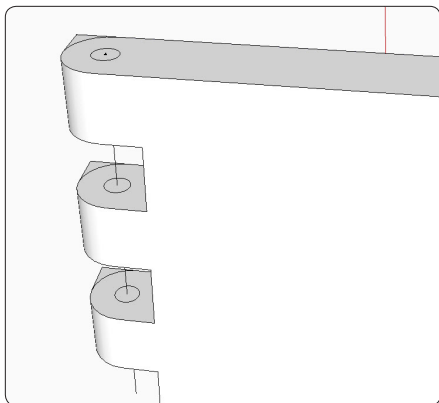

Figure 51. Round the knuckles of the movable hinge leaf.
Step 6 Round over the outside corners of the knuckles on the movable portion of the hinge. Use the Circle Tool to create the corner arcs, as shown in Figure 51. Then use the Push/Pull Tool to remove the corners on the